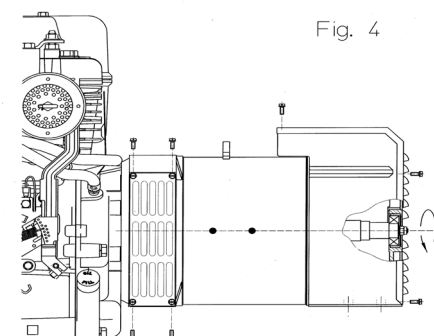

Fig. 4
-) block the central stay rod, applying a tightening torque of $21 \pm 7\%$ Nm if you are using stay rods of M8, while if you are using M14 stay rods, apply a tightening torque of $120 \pm 7\%$ Nm; reassemble the lateral protective nets and the rear closing grid by applying a tightening torque of $3,5 \pm 7\%$ Nm to the M5 screws (figure 4).